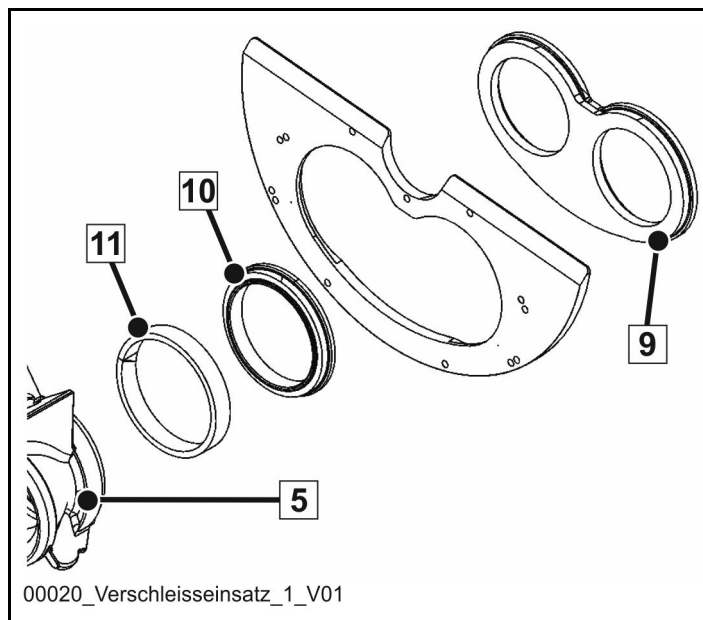

Fig. 333
A one-piece wearing insert (9) (Fig. 333) made of white cast iron is used as standard.